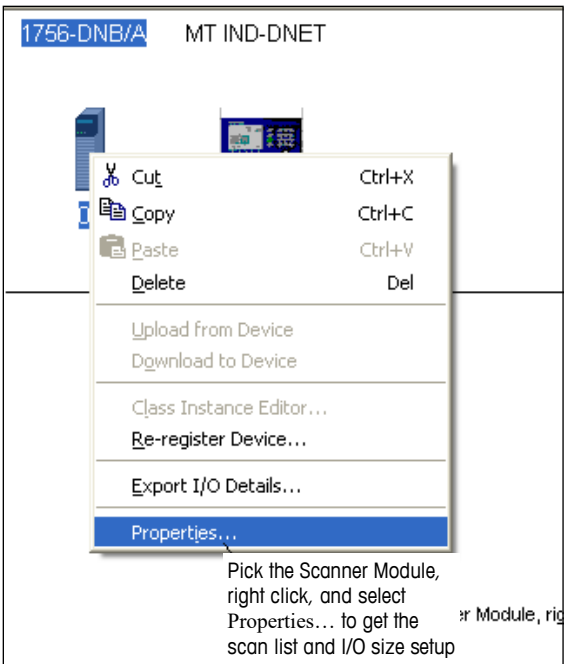

Figure 5-16: Accessing Scanner Properties
- Once the scanner has browsed the entire network, add IND Terminal to the 1756-DNB/A's scanlist by right-clicking on the scanner icon in the Graph window (note the tab at the bottom of Figure 5-16), and choosing Properties...